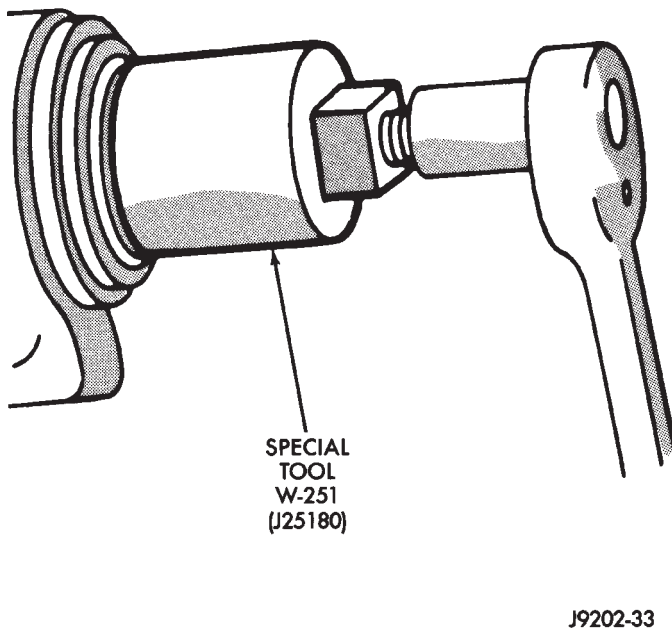

Fig. 3 Seal Removal
(8) Use Remover W-251 to remove the pinion gear seal (Fig. 3).